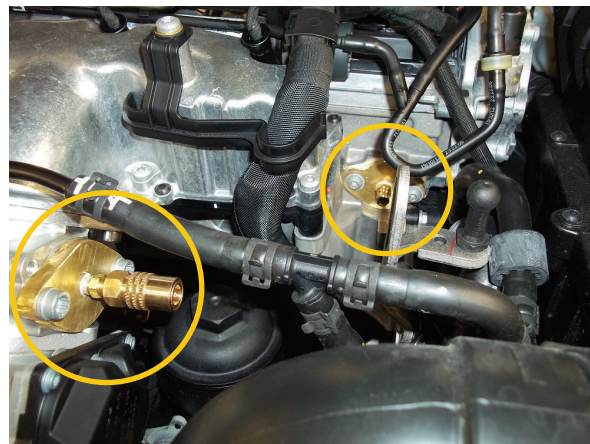

Figure 2
4. Install the BG EF504 intake and BG EF502 exhaust adaptors in place of the EGR inlet pipe using existing bolts and tighten hand tight to secure the adaptors (Figure 2).